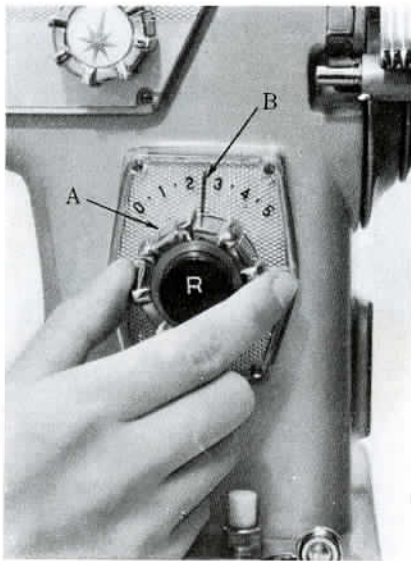

Fig. 18
- (b) By turning the stitch length regulating dial (Fig. 18 A), the stitch length indicating bar (Fig. 18B) points to the desired stitch length.